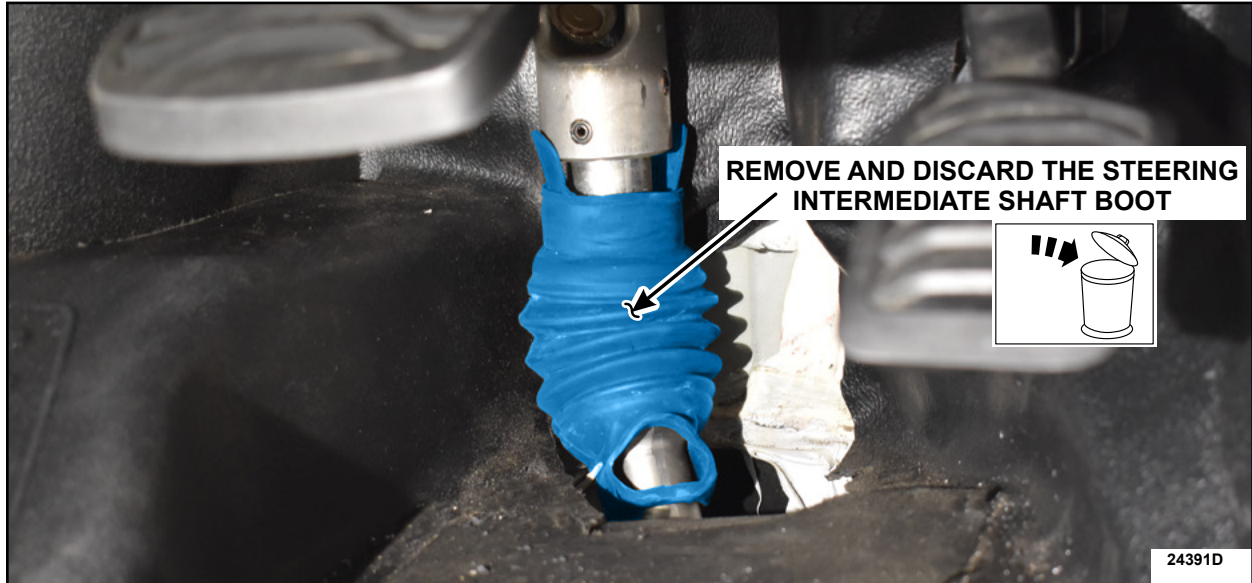

FIGURE 4
6. **For Low Profile Covers Only**, If equipped, remove and discard the rubber boot around the lower steering column shaft, shown in Figure 4.